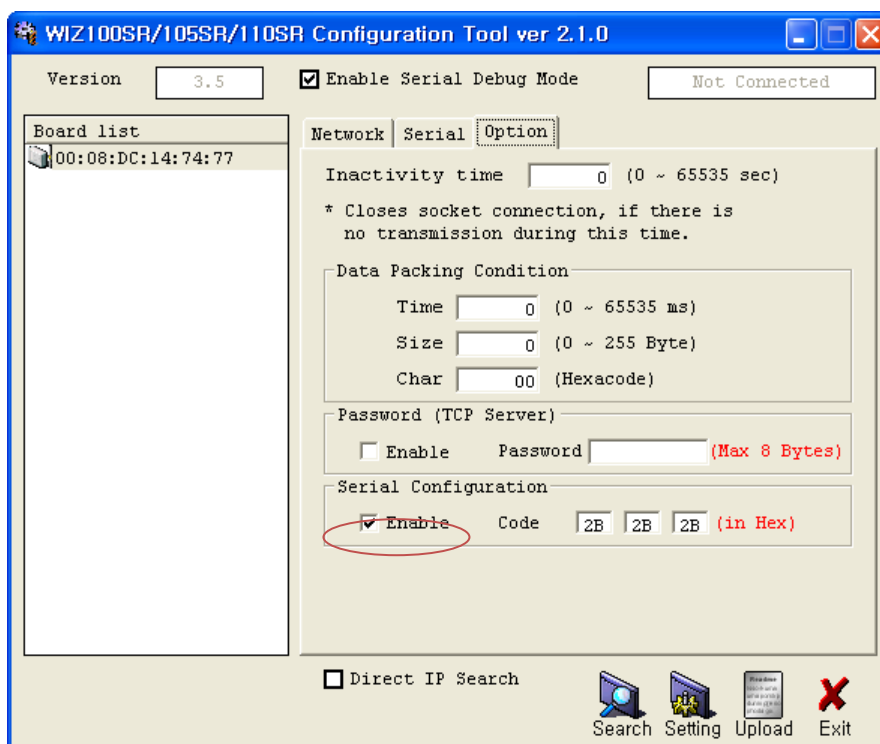

Figure 14. Serial Configuration Enable Setting
- ④ When uploading is complete, a message box with "Complete Uploading" will be displayed as shown in Figure 14.